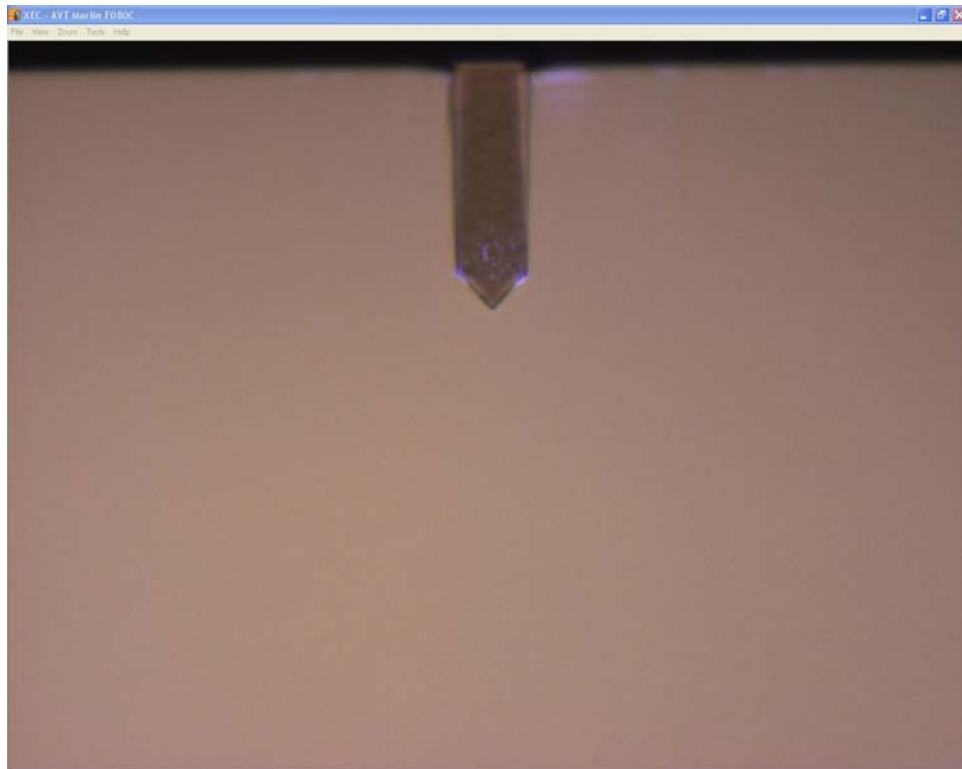
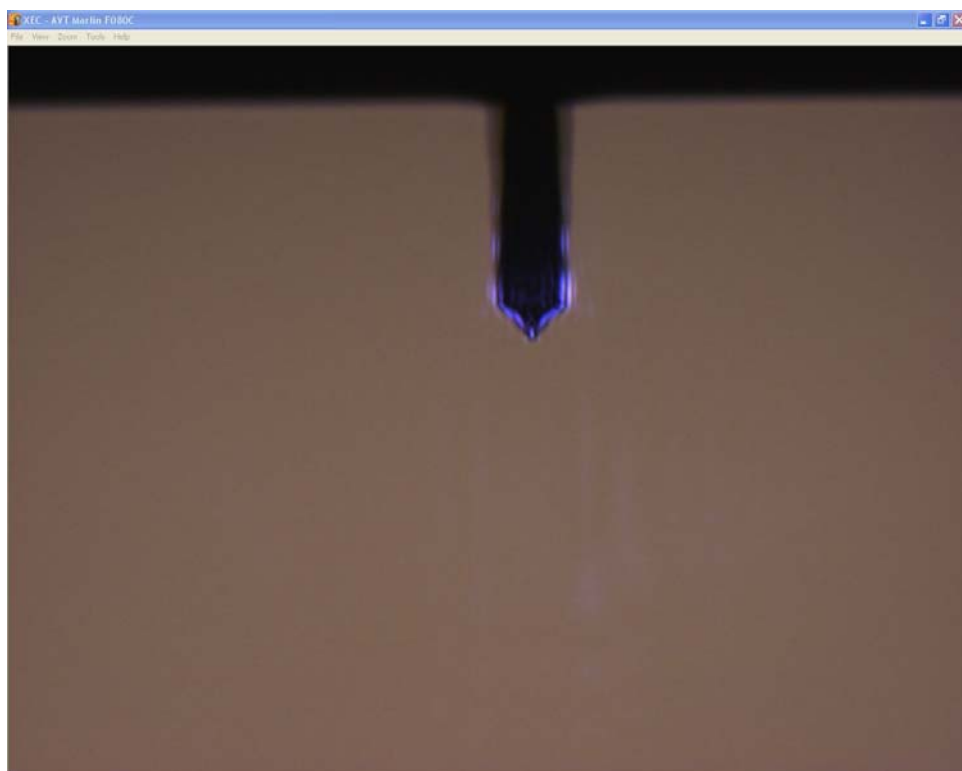

Fig. 6: the real object of the cantilever.
Fig. 7: the image of the cantilever of Fig. 6.
- (a) Move down the "Focus" to try to view the image of the cantilever reflected from the sample. For example, Fig. 7 shows an image of the cantilever reflected from a bare Si wafer surface. Fig. 6 shows its real object for comparison.